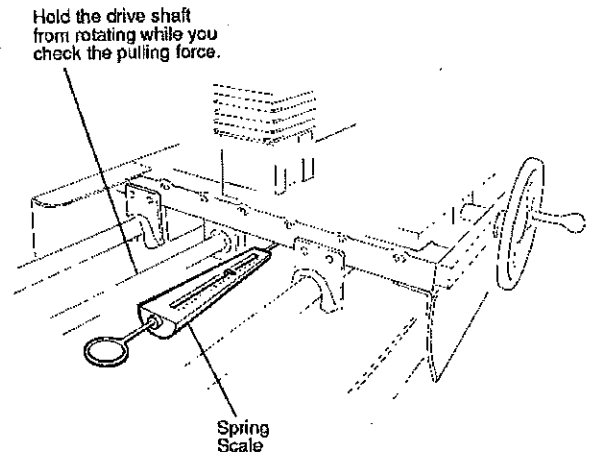

FIG. 19
10. Connect a spring scale so it pulls on the carriage parallel to the drive shaft. Hold the drive shaft from rotating while you pull on the carriage. See FIG. 19.
Check for excessive carriage-traverse load by using a spring scale to pull on the carriage parallel to the drive shaft (as in FIG. 19). There should be only about a 3- to 5- lb. pulling force.